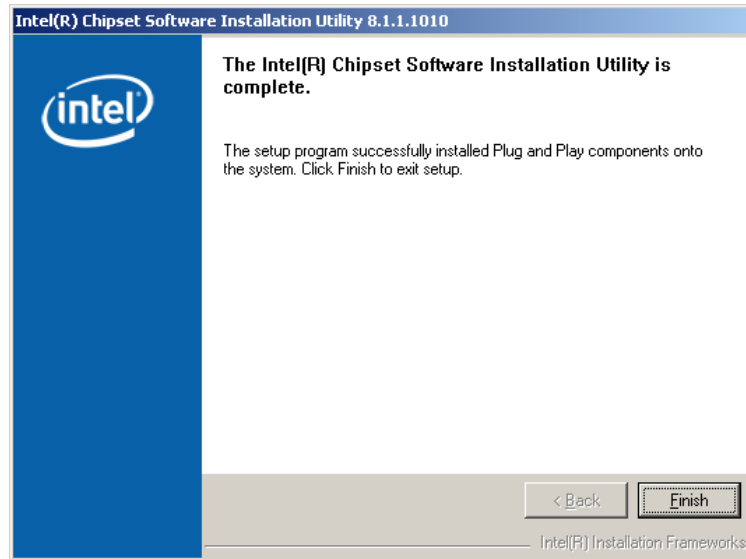

Figure 7-7: Chipset Driver Installation Complete
Step 10: After the driver installation process is complete, a confirmation screen (Figure 7-7) appears.